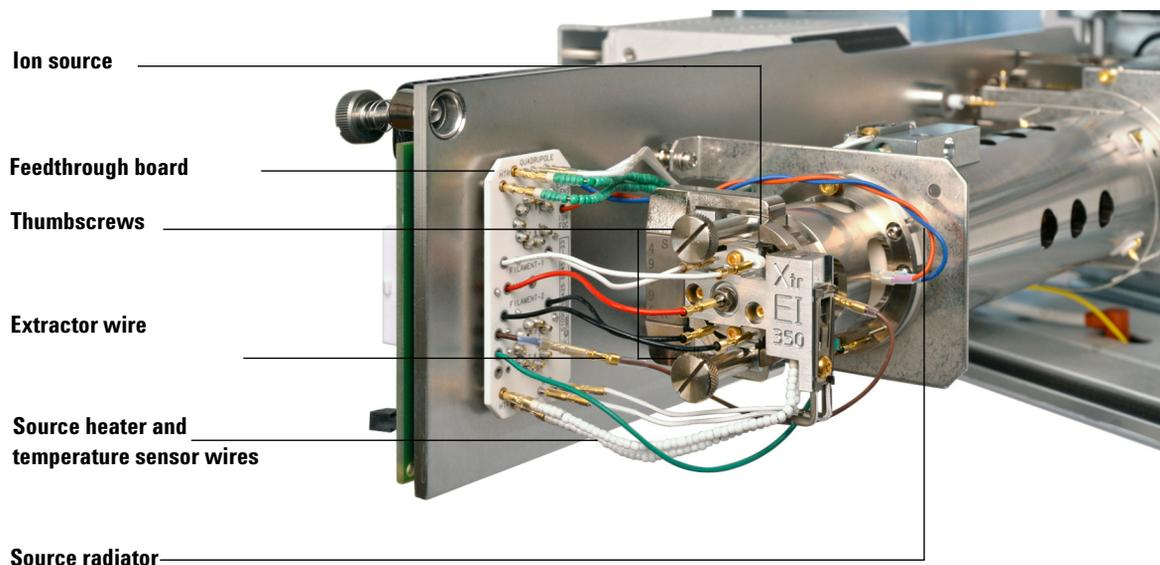

Figure 12 Removing the Extractor ion source
- 4 If you are using an extractor ion source, disconnect the eight wires from the ion source. Do not bend the wires any more than necessary (See Figure 12 on page 98).